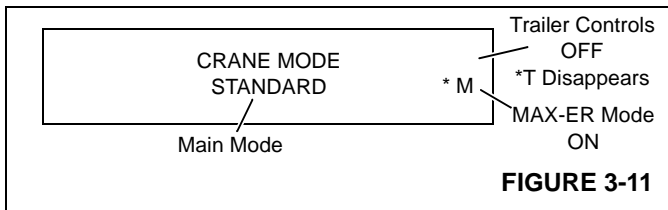

FIGURE 3-11
- If MAX-ER counterweight trailer is reattached, turn key clockwise (select) until TRAILER CTL OFF appears on display as shown in Figure 3-11.